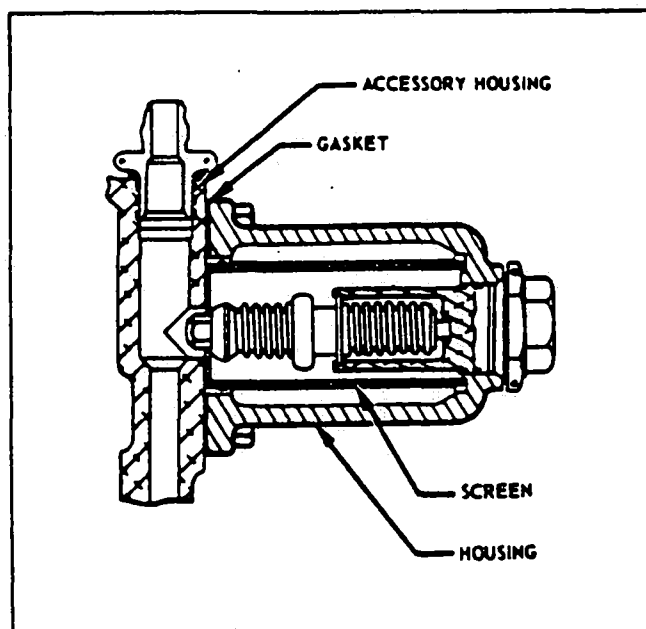

Figure 2-18. Oil Pressure Screen
**2-73. OIL SCREEN (PRESSURE).** The pressure screen located in a housing on the accessory case of the engine between the magnetos, should be cleaned at each oil change to remove any accumulation of sludge and to examine for metal filings or chips. If metal particles are found in the screen, the engine should be examined for internal damage. The pressure screen is removed by disconnecting the temperature indicator wire and removing the four hex head bolts that secure the screen housing to the accessory case. Clean and inspect the screen. Reinstall by first ascertaining that the screen fits flush with the base of the housing. (Refer to Figure 2-18.) Install the screen and housing to the accessory case using a new gasket. Torque attaching bolts within 50 to 70 inch-pounds.